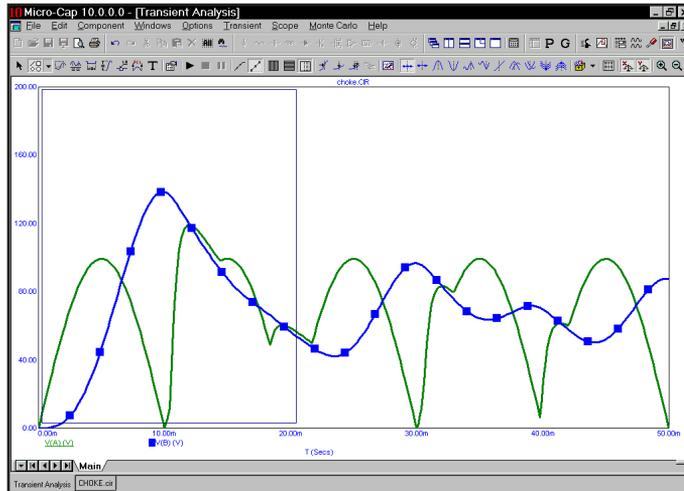

Figure 7-3 Magnifying a plot region
Click the left mouse button just above and to the left of the large peak of the V(B) curve. While holding the left button down, drag the mouse down and to the right to create a magnification box like the one shown in Figure 7-3.